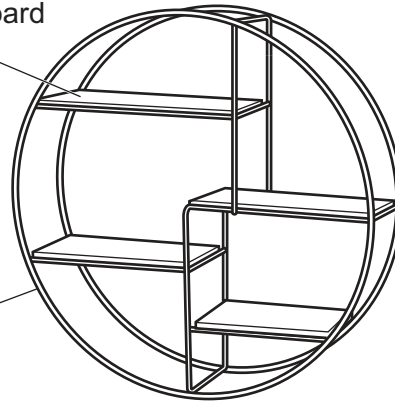

Fig. 1.1
- 1 Fig. 1.1 shows details of a wall unit.